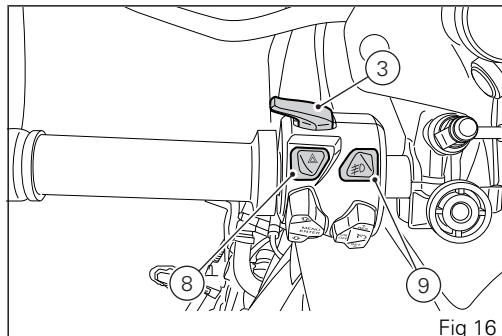

Fig 16
3) LIGHT ON/OFF AND SWITCHING BUTTON (LOW BEAMS / HIGH BEAMS)(Fig 16)